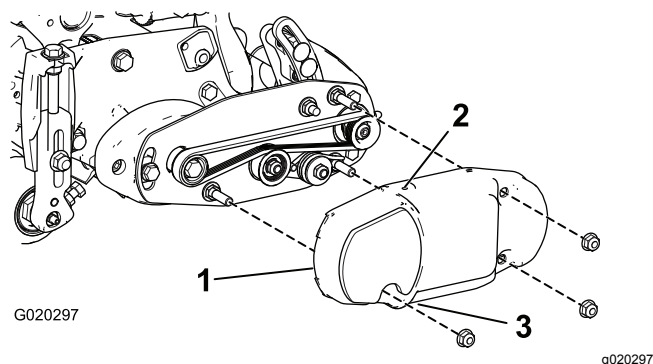
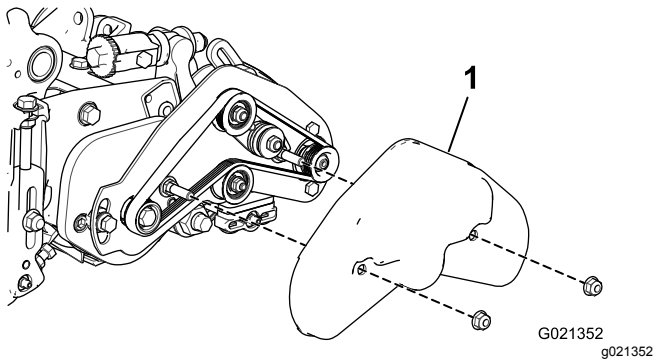

Figure 26
Figure 27
40. Slide the belt cover onto the mounting bolts and secure with 2 flange nuts (Figure 26 and Figure 27).